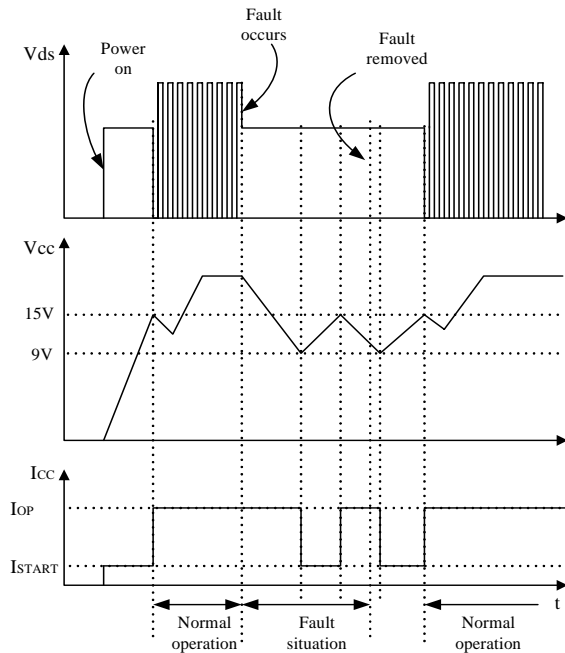

Figure 12. Auto Restart Mode Protection
-Auto-restart mode protection: Once the fault condition is detected, switching is terminated and the SenseFET remains off. This causes Vcc to fall. When Vcc falls to the under voltage lockout (UVLO) stop voltage of 9V, the protection is reset and the FSCQ-Series consumes only startup current (25uA). Then, the Vcc capacitor is charged up, since the current supplied through the startup resistor is larger than the current that the FPS consumes. When Vcc reaches the start voltage of 15V, the FSCQ-Series resumes its normal operation. If the fault condition is not removed, the SenseFET remains off and Vcc drops to stop voltage again. In this manner, the auto-restart can alternately enable and disable the switching of the power SenseFET until the fault condition is eliminated (see Figure 12).